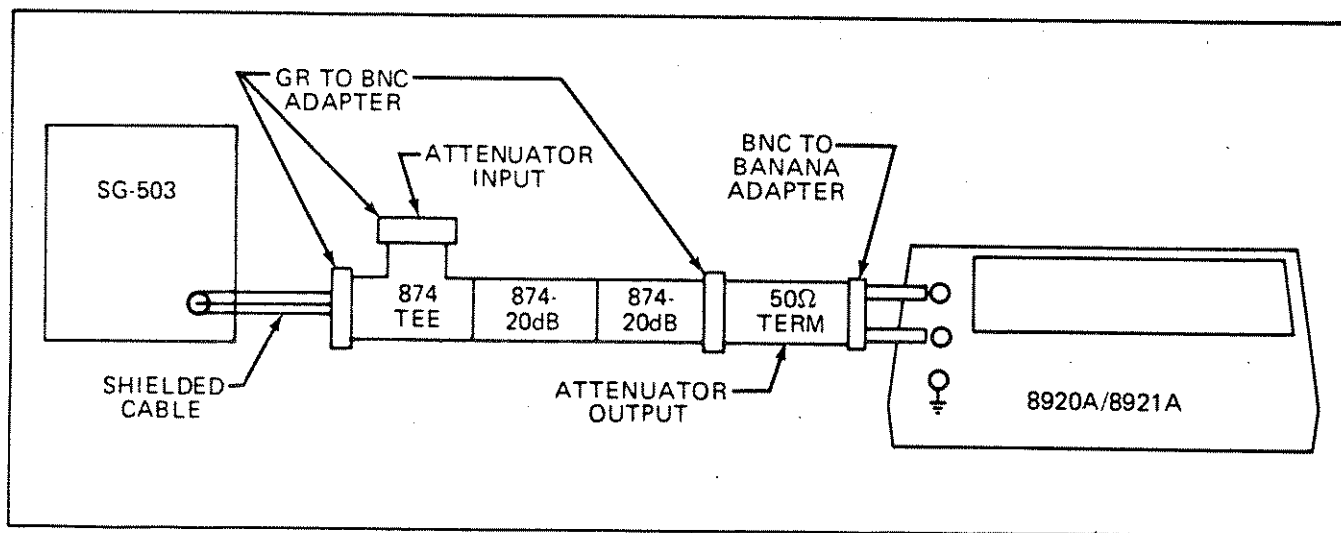

Figure 4-3. AC Low Level Check Test Set-Up
4-22. This procedure will verify that the UUT's low level AC performance meets the specifications of Section I. Set up the test equipment as shown in Figure 4-3 and complete the AC Low Level Calibration procedure. Replace steps 2-d and 2-e with the following:
- 1-b. Set up the test equipment as shown in Figure 4-3.